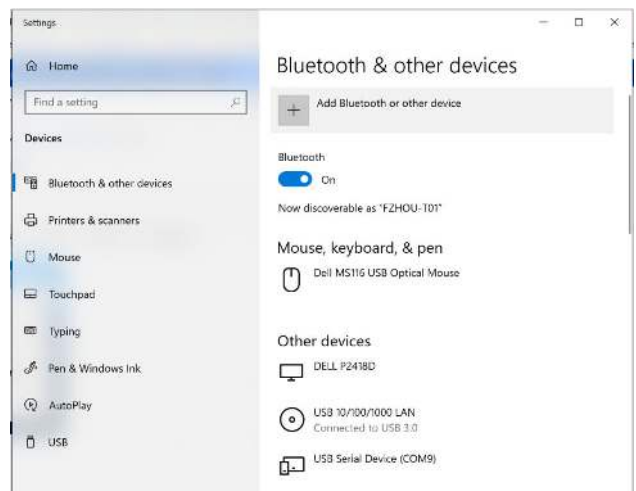

Figure 15. Add Bluetooth Device from Settings Window
2. The **Settings** window opens (see Figure 15). Under **Bluetooth & other devices**, click **Add Bluetooth or other device**.